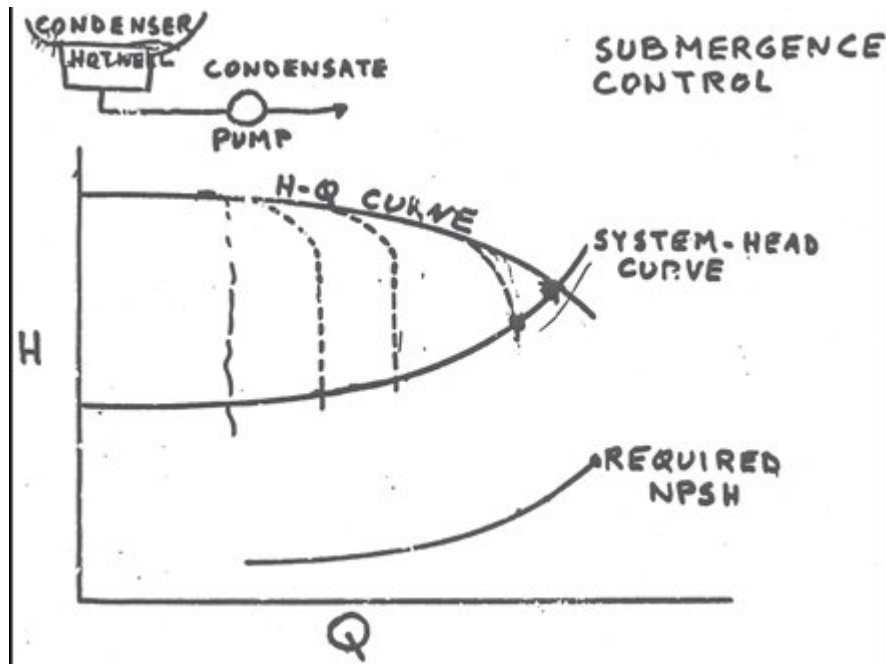

Figure 4. Pump Capacity Controlled by NPSHA (I.J. Karassik [5])
Igor Karassik (5) enjoyed telling the story of his experience with condenser hot well condensate pumps, with the performance seen in Figure 4. These pumps were typically installed in systems that allowed the water level in the hot well to control pump capacity. Water in the hot well, at its bubble point, would readily flash (cavitate) in the impeller eye. A lower water level would result in lower NPSHA, which would result in a lower pump head (more flashing) and lower pump capacity. Pumps operating along a vertical segment of their head curve(s) are said to be operating *in the break*. Pumps made of standard iron/bronze construction had acceptable component life in this service.